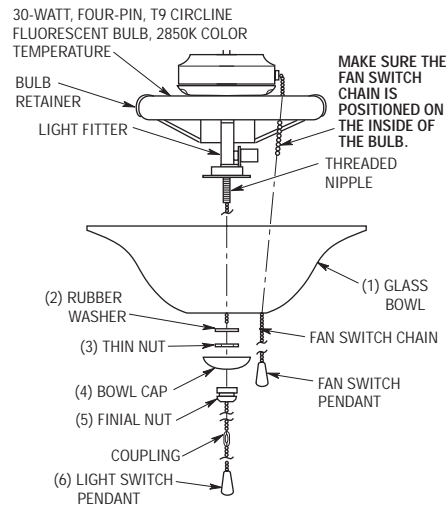

Figure 7
1. Remove the two pendants from the switch chains (Figure 7).